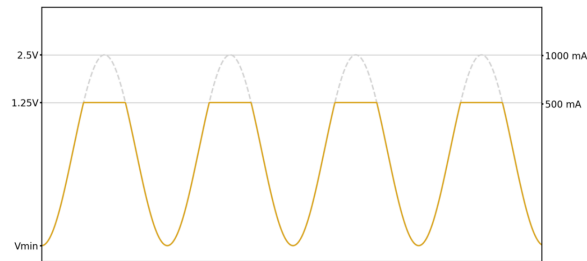

Figure 11.86: Cropped LED excitation signal
- **Custom** - this setting allows users to manually adjust the **Vmax** and **Vmin** of the LED, regardless of **LED's maximum current**. Care should be taken to remain below the maximum voltage, or the excitation signal will be cropped at the true maximum value (see Fig. 11.86).